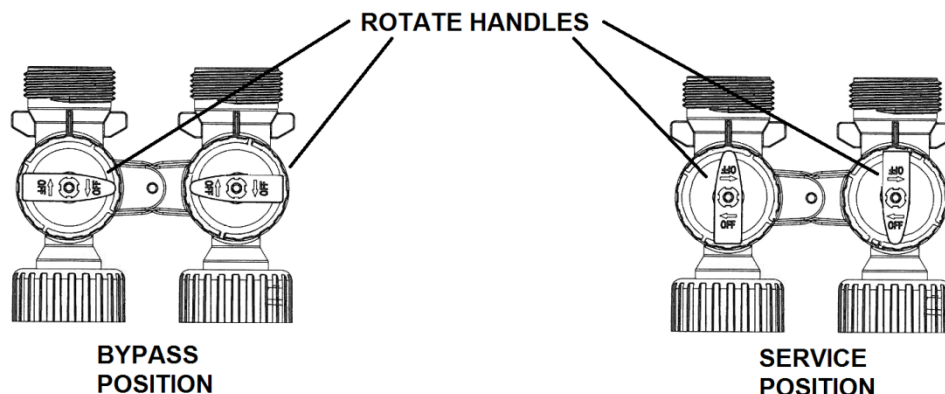

FIGURE 2: Bypass Valve Operation
- STEP 10:** Plug the filter into an un-switched electrical outlet. Ensure control valve is in the “Service” position (time of day is displayed on the screen {refer to page 5 for Home Screen Display}). Place bypass valve in the “Bypass” position (refer to Figure 2 below). Open main supply valve or turn on power to pump on private well systems.